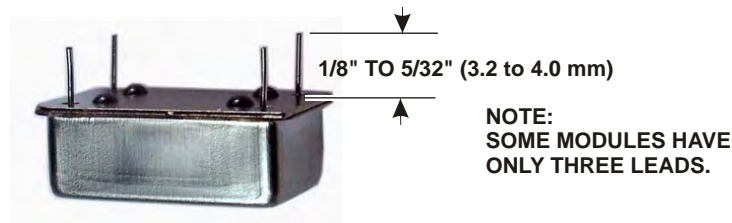
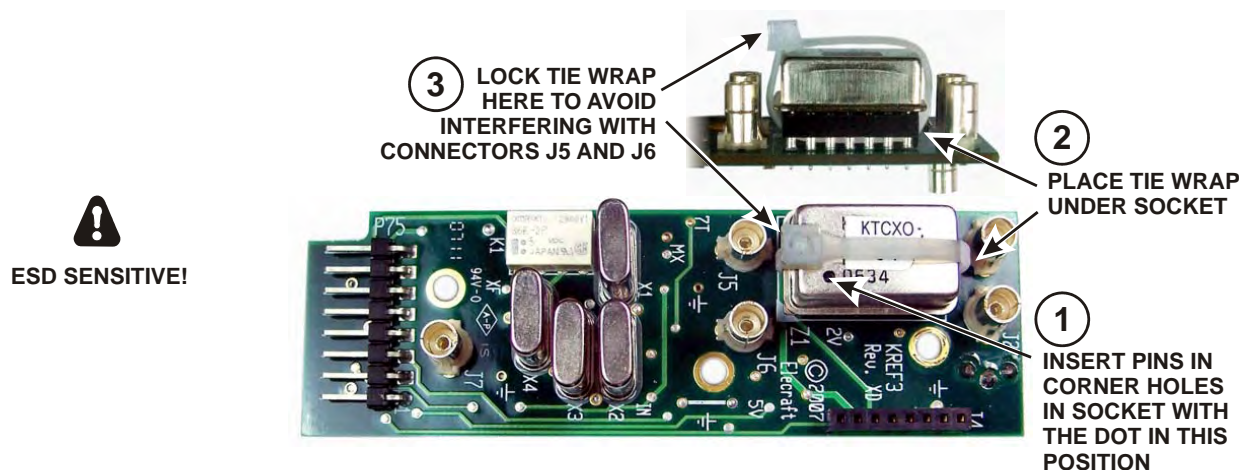

Figure 56. Preparing TCXO Module Leads.
Figure 57. Mounting TCXO Module on KREF3 Board.
- ***If you are installing the optional 1-ppm TCXO module, skip this step.*** When installing the standard 5-ppm oscillator module, check the lead lengths as shown in Figure 56. If longer than shown, use your diagonal cutters to trim them to length. The objective is to cut the leads only as necessary for the module to fully seat in the socket as shown in Figure 57. ***Do not cut the leads shorter than necessary or your oscillator may not work.***
□ Mount the TCXO module on the KREF3 board as shown in Figure 57. The bottom of the module should rest against the socket. Be certain the leads go into the corner holes in the socket and the black dot is oriented toward connector J6 as shown. If you have a 1ppm high-stability module, the dot may be light brown and not as close to the corner. If the module has only three leads, the missing lead will be in the corner with the dot.